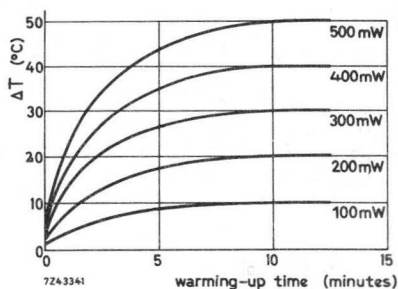

Fig. 8
- a. for temporarily energising of maximum 10 minutes the temperature rise  $\Delta T$  is given in Fig. 8. The permissible dissipation is determined by the sum of room temperature and  $\Delta T$  (max. 70 °C)
- c. when using a series of pulses of relatively low frequency,  $\Delta T$  can be determined by plotting the temperature gradient during the pulse series with the aid of Figs 8 and 9. The permissible dissipation is determined by the sum of room temperature and  $\Delta T$  (max. 70 °C)